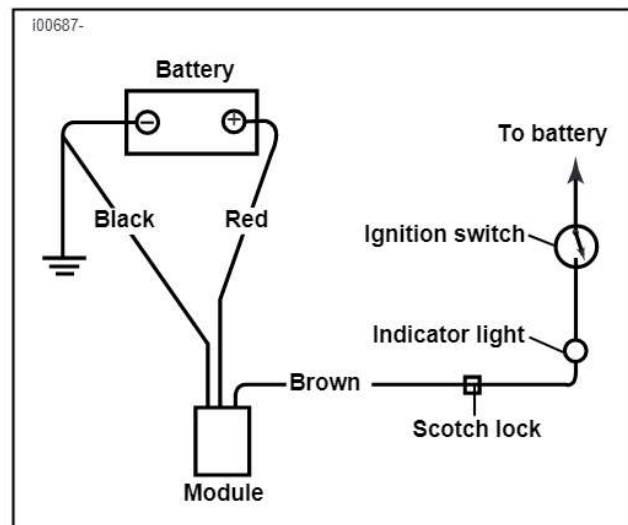

Figure 2. Wiring diagram
4. See Figure 2. Route and connect wire leads from indicator light and module as shown. Ignition switch lead connects to "ON" terminal of switch. Terminate wire ends with appropriate connectors (large connectors to battery leads, small connector to ignition switch). Use Scotch-lock style connector to join brown wire lead from module with a lead from indicator light.